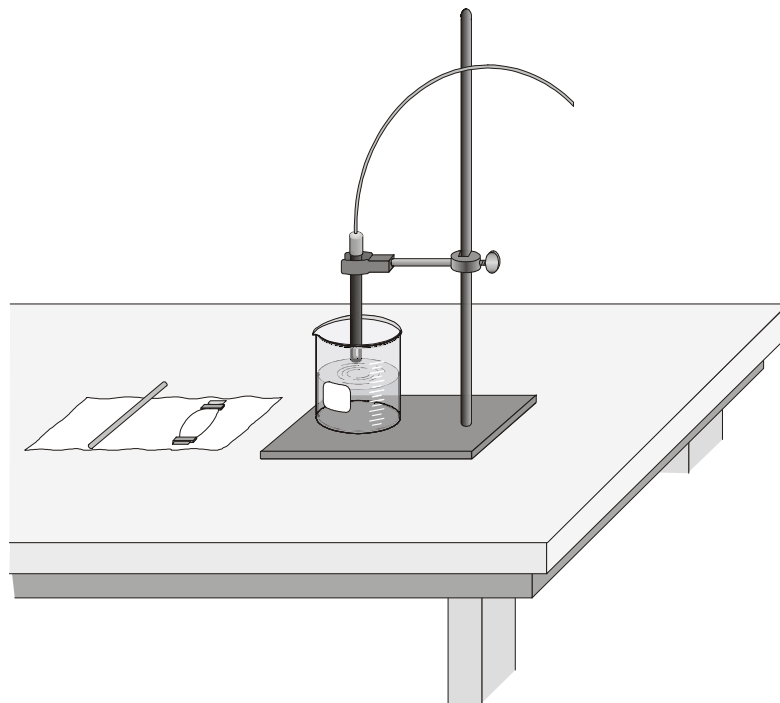

Figure 1
8. Position the Conductivity Probe into the water as shown in Figure 1. Place the dialysis tube into the water. Be sure the tubing is submerged completely under the water. **Important:** Be sure to position the Conductivity Probe and dialysis tubing the same distance apart in each trial.